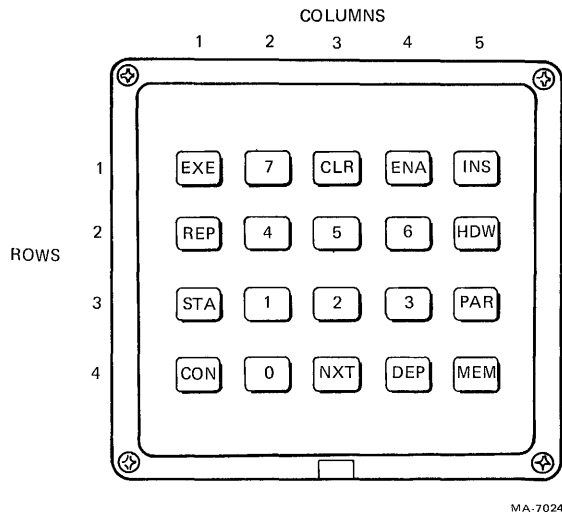

Figure 3-15 TM78 Maintenance Keypad
5. Perform the TM78 maintenance keypad tests. Press each key (except **ENA**) independently in order to produce its keypad matrix location in the display. The second LED digit indicates the column number and the fifth LED indicates the row number. The other LEDs display hyphens. Figure 3-15 illustrates the keypad with the assigned column and row numbers. When no key is pressed, the display reverts to the rotating character test.